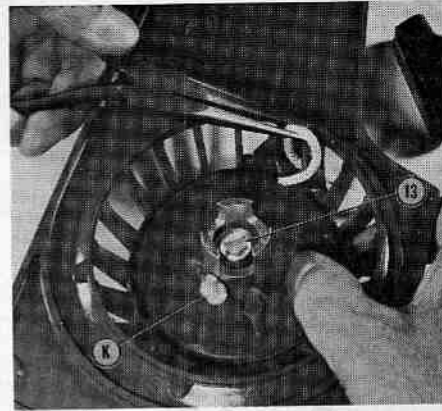

Fig. HL121—Pulling loop of starter rope past notch in rope pulley. Rope is retained by knot (K). Rope pulley retaining screw is (13).
Fig. HL120—Exploded view of typical ratchet type rewind starter used on all models. Refer also to Figs. HL121 and 122. Late type rope pulley (24) and separate spring lock (23) can be installed if necessary to renew early type pulley (10) with integral spring lock. On models XL-103E and XL-104E, a stationary screen is attached to outside of housing (5) and rotating screen (17) is not used.
REWIND STARTER. For exploded view of starter, refer to Fig. HL120. To disassemble starter, refer to Fig. HL121 and proceed as follows: If starter spring remains under tension, pull the starter rope out about two turns of pulley, hold pulley from turning and pull loop of rope out past notch in pulley. Allow the starter spring to completely unwind, then remove screw (13) and disassemble unit. Be careful when removing spring; a rapidly uncolling starter spring could cause serious injury.
If necessary to install new rope, insert end through pulley and tie knot as shown at (K—Fig. HL121). Heat end of rope to secure knot, then insert other end through rope guide in fan housing and secure in handle. Wind cord all the way onto pulley, then fit pulley and plastic sleeve onto starter post. Pull rope out far enough to be sure pulley engages spring, then allow spring to rewind. Install pulley retaining washer and screw and tighten screw to minimum torque of 50 inch-pounds. Pull cord out about two feet so that notch in pulley is at rope insert in housing and hold pulley from turning (Fig. HL121). Pull up a loop of rope between notch and fan housing, then holding loop, turn pulley and rope three turns clockwise (winding spring).